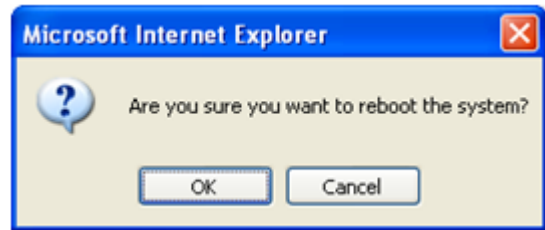

Figure 7
1. Click the [Reboot] button, which will cause a confirmation window, Figure 7, to appear